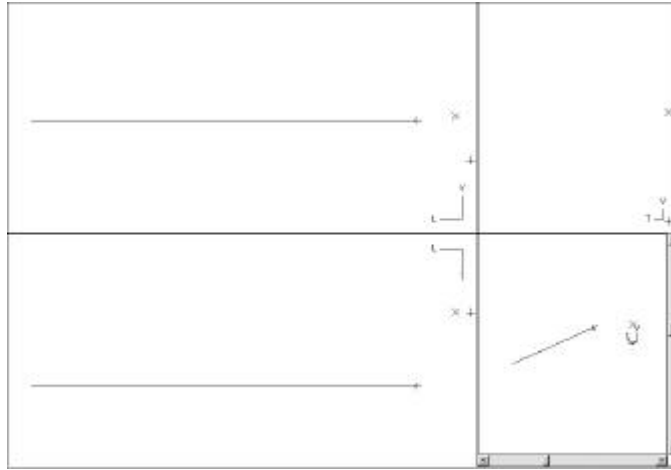

Figure 1-3: The curve Deck Edge
4. Hold down the **Shift** key and click on the **Zoom Extents** button. (See Figure 1-3.)